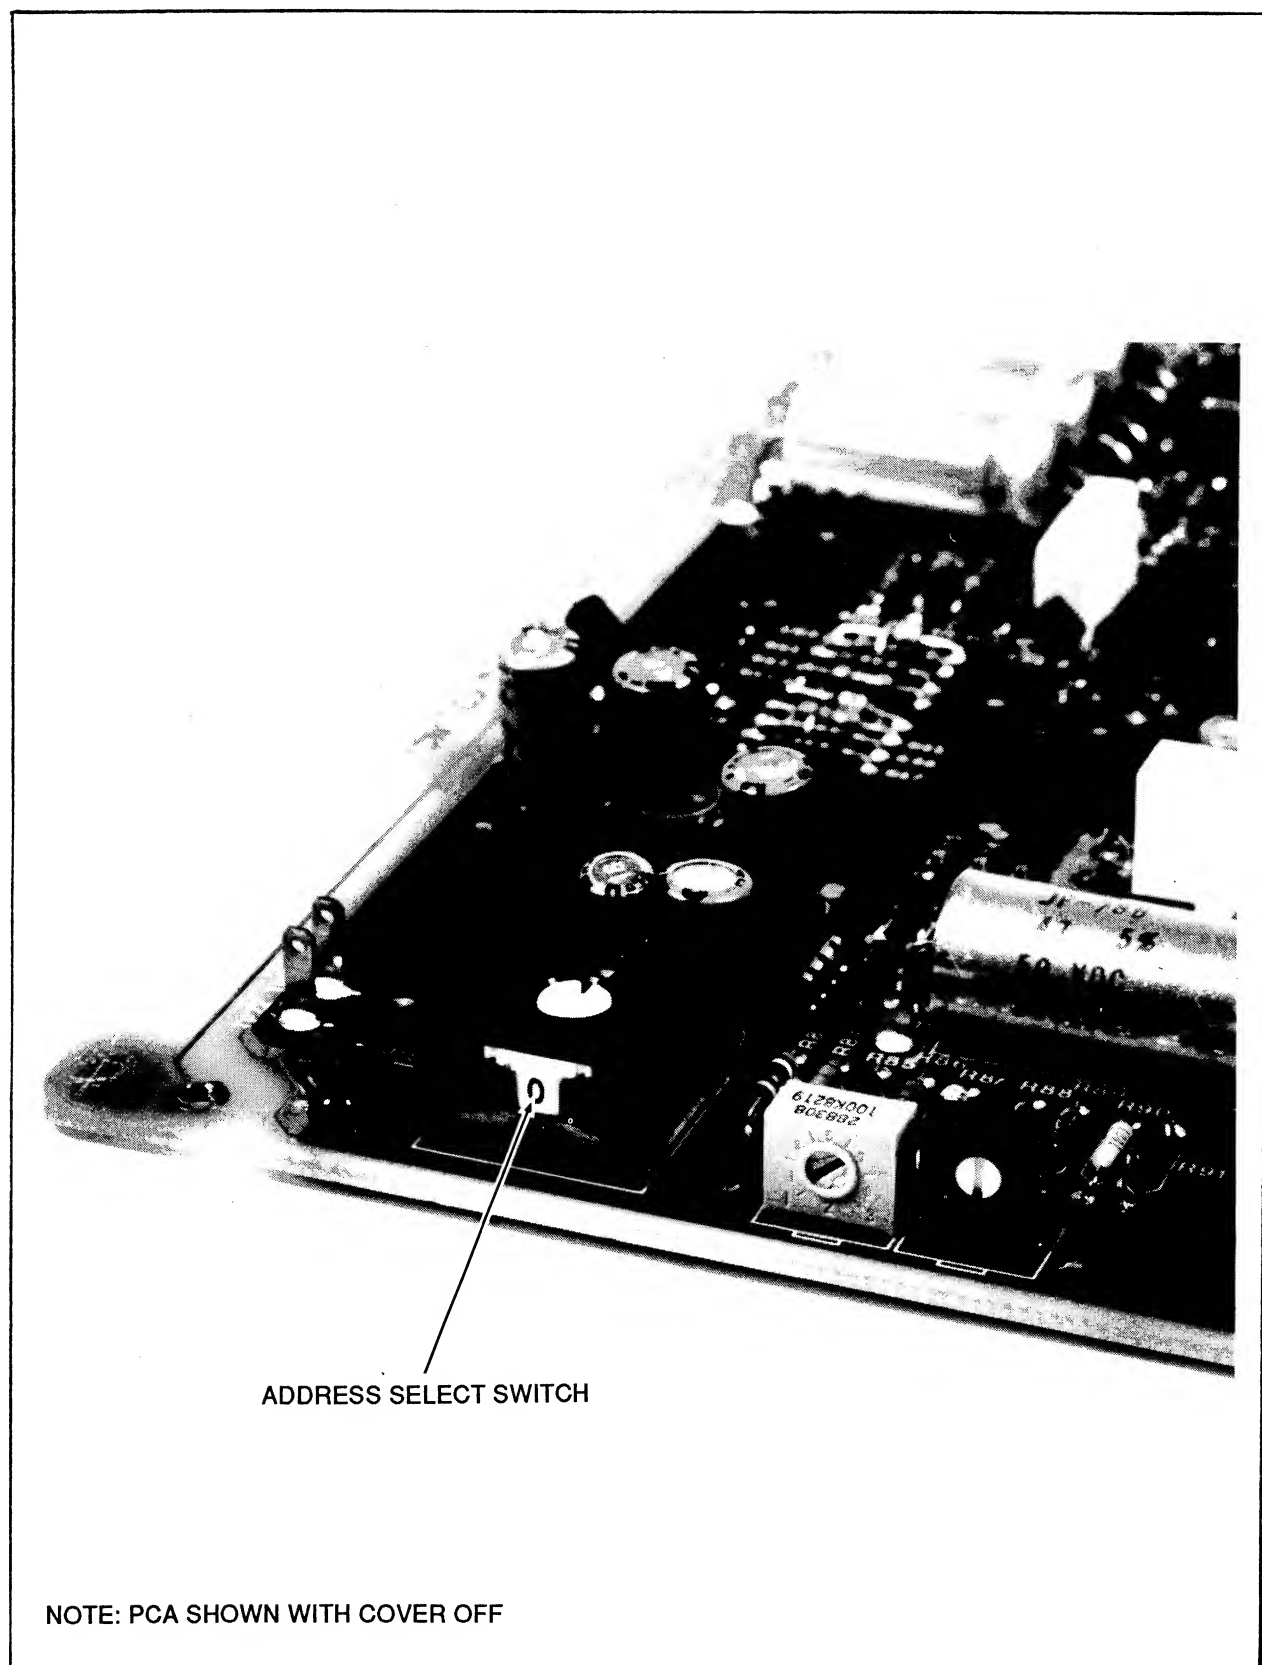

Figure 5-2. Serial Link Option Address Switch (2280A-161 shown)
3. Select one serial link option and set the address on that option to 0 (see Figure 5-2 for the location of the address select switch), then reinstall that option.